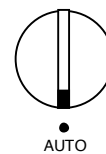

Figure 12
1. Turn dial to **AUTO**. Display shows current time and day. (See Figure 12.) Colon is blinking.